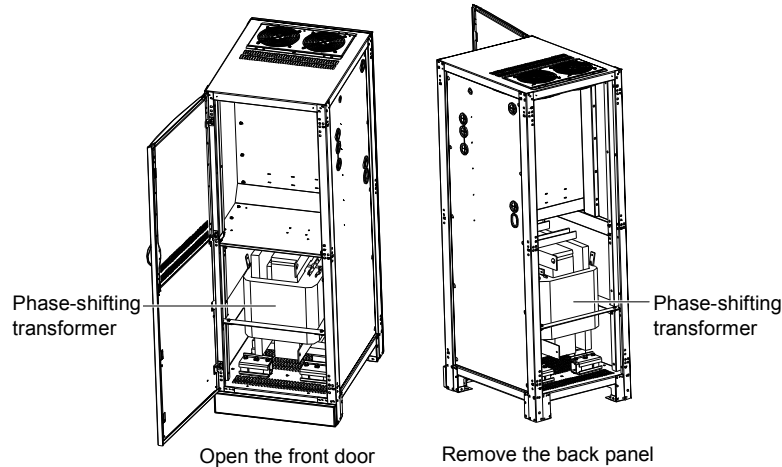

Figure 5 Opening the front door and removing the back panel
1. Open the front door and remove the back panel of the side cabinet to reveal the phase-shifting transformer, as shown in Figure 5. Retain the screws.